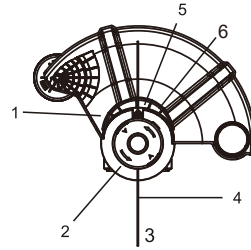

Fig. 5
1. Place the tool on its back on a clean work surface (Fig. 5).
2. Slide the guard in the direction as indicated by the arrow (2).